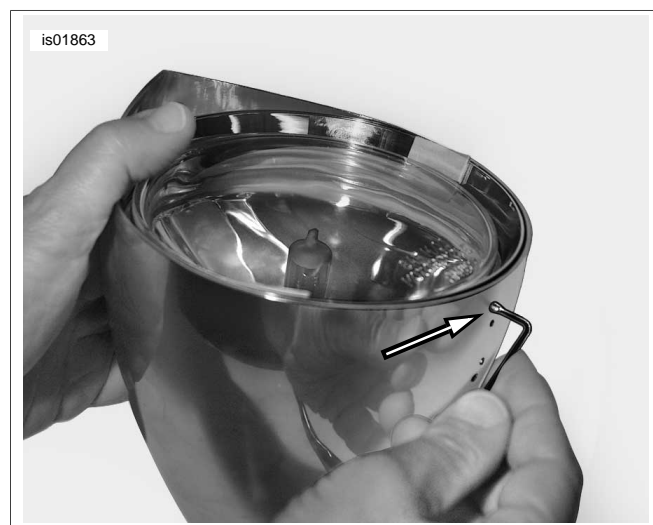

Figure 14. Allen Wrench and Outer Set Screw
3. See Figure 14. Using 1/16-inch allen wrench, remove outer set screw at bottom of headlamp shell.
7. See Figure 14. Using 1/16-inch allen wrench, install outer set screw at bottom of headlamp shell.